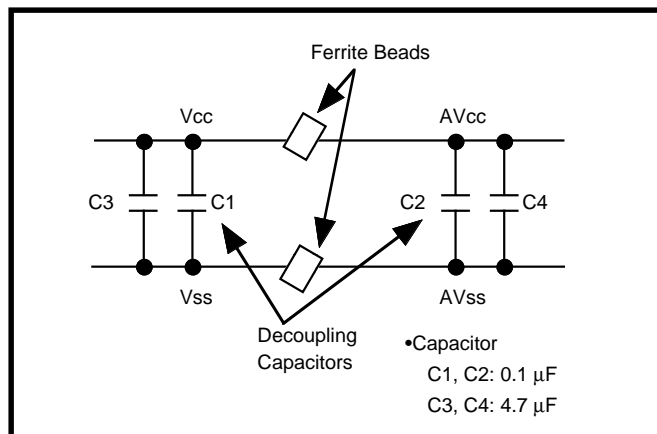

Fig. 3.3.4 Insulation connector connection
- An insulation connector (Ferrite Beads) must be connected between AVss and Vss pins and between AVcc and Vcc pins. (See Figure 3.3.4.)
(4) USB Communication